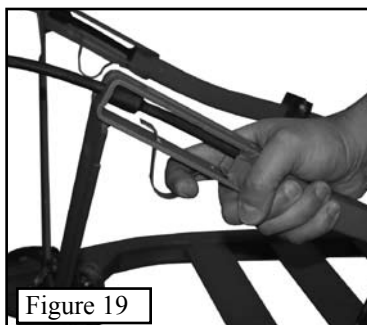

Figure 19
Step 1. Attach the base platform to the tree first. To do this, pull down and hold the QuickDraw cable spring as shown in **Figure 19**. This will release the locking tab from the cable, allowing you to remove it from the cable bracket.